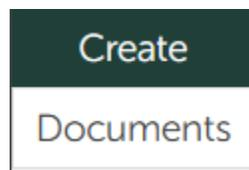

Figure 5: Catalogue side menu bar
2. Select Create from the sidebar – see **Figure 5**.